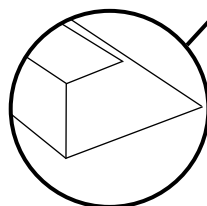

fig.1
- Position door side flashings and top and bottom flashings and assemble door as shown, ensuring narrow face of flashing is on the front as per fig. 1